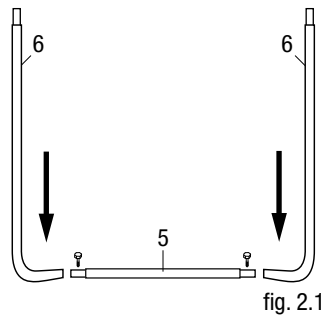

fig. 2.1
Put all of the supporting legs (6) together with the foot pieces (5). Please note that the safety label stuck on one of the supporting legs should point outwards afterwards (fig. 2.1). Place one screw from the set of screws through parts (6) and (5) on each side in order to secure them. Tighten these with the nuts.